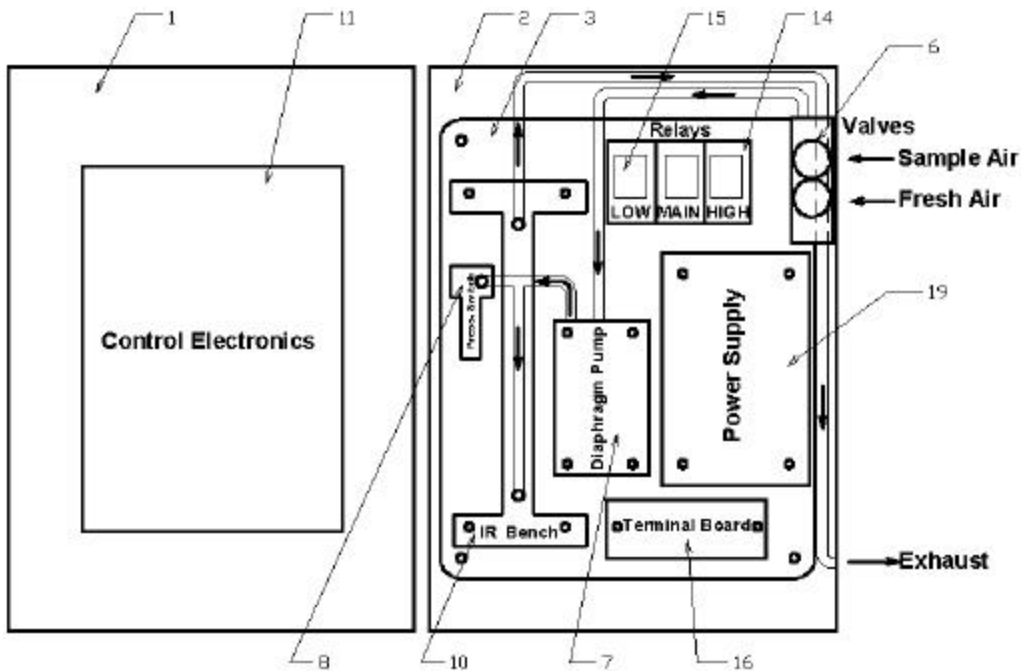

Figure C1. Parts Diagram
**Parts List:** Refer to figure C1 for approximate location of the following parts: